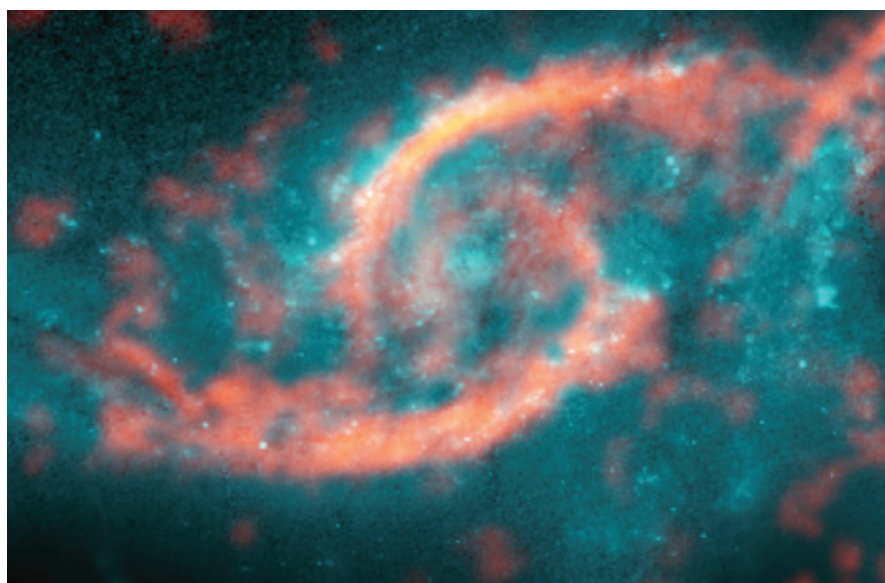

Figure 1. The "eye-like" structure, created when galaxies IC 2163 and NGC 2207 collided.
Situated far above sea level in the Atacama Desert in Chile, the Atacama Large Millimeter Array (ALMA) telescope is used to study the heavens. Using it, astronomers have discovered two spiral galaxies that have crashed together (IC 2163 and NGC 2207), producing a "tsunami" of stars and gas (1). The result closely resembles a gigantic eye (see Figure 1).